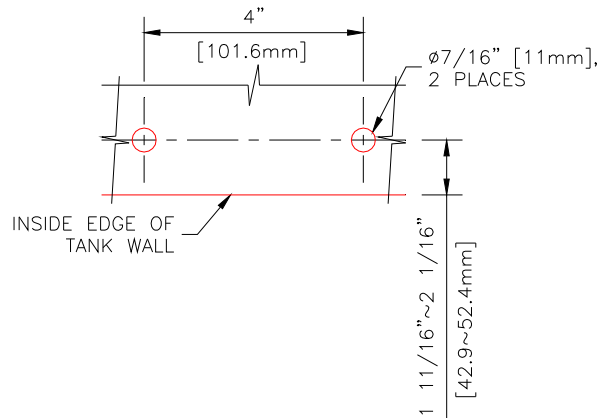
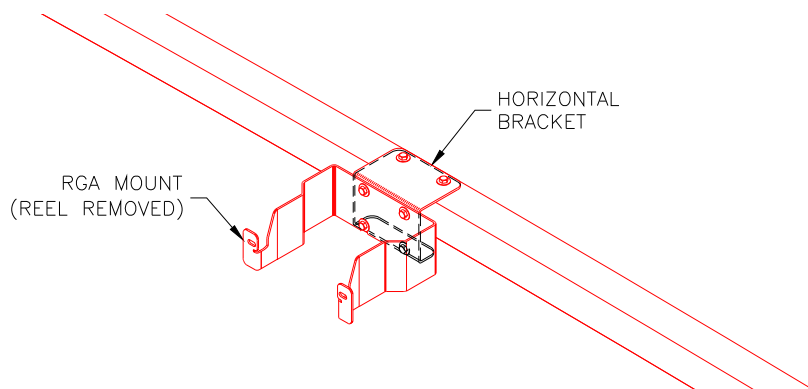

Figure 5: Horizontal Bracket – Hole Dimensions
Figure 6: Attaching the Horizontal Bracket to Tank Rim Angle
Mounting the RGA using the Horizontal Bracket – Two (2) 7/16” [11mm] diameter holes need to be made in the field on the tank lip using the Horizontal Bracket as a template. See Figure 5, Horizontal Bracket - Hole Dimensions. Scrape paint and rust from around the drilled holes and under the Horizontal Bracket to bare metal. Apply Lectra Shield to both sides of the hole and all bare metal to prevent rusting. Using the supplied hardware, secure the Horizontal Bracket to the tank rim angle and apply Lectra Shield to the hardware after assembly. Attach the RGA Mount and Reel assembly to the Horizontal Bracket. See Figure 6, Mounting the Horizontal Bracket to the Tank Rim Angle.